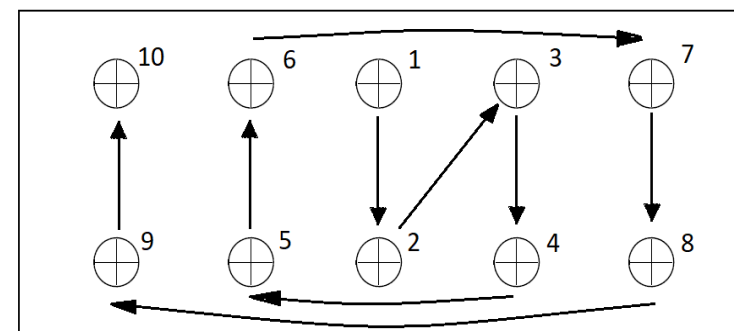

Fig. 4. Example of bolt tightening sequence in a connection.
- For both the first and last cycles, tighten the bolts in sequence from the most rigid to the least rigid contact area, as shown in Fig. 4. More than one tightening cycle may be required to achieve even compression.